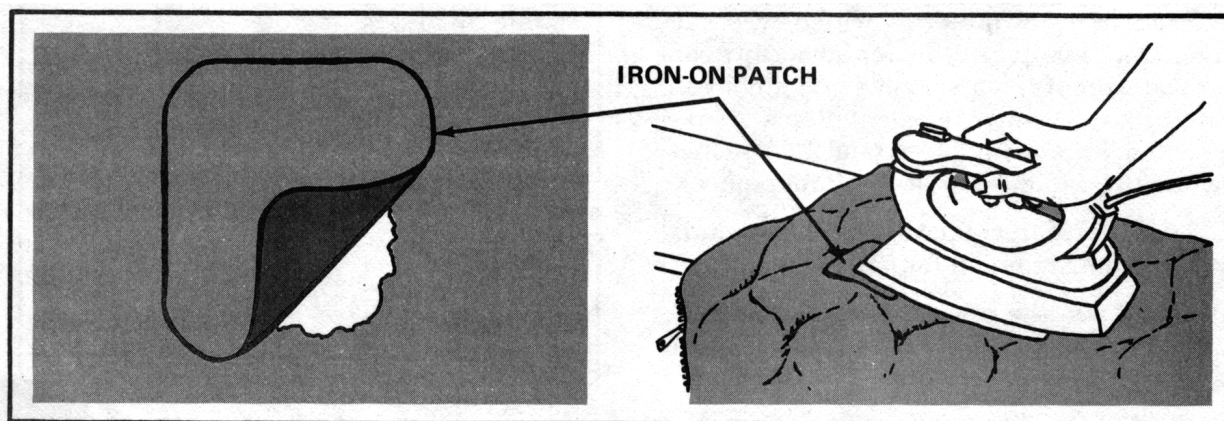

Figure 4-8. Iron-on patch
d. Iron-On Patch. The iron-on patch (Figure 4-8) may be used to repair sleeping bags. It can be used instead of a pinch patch to repair small holes and tears. To apply an iron-on patch--